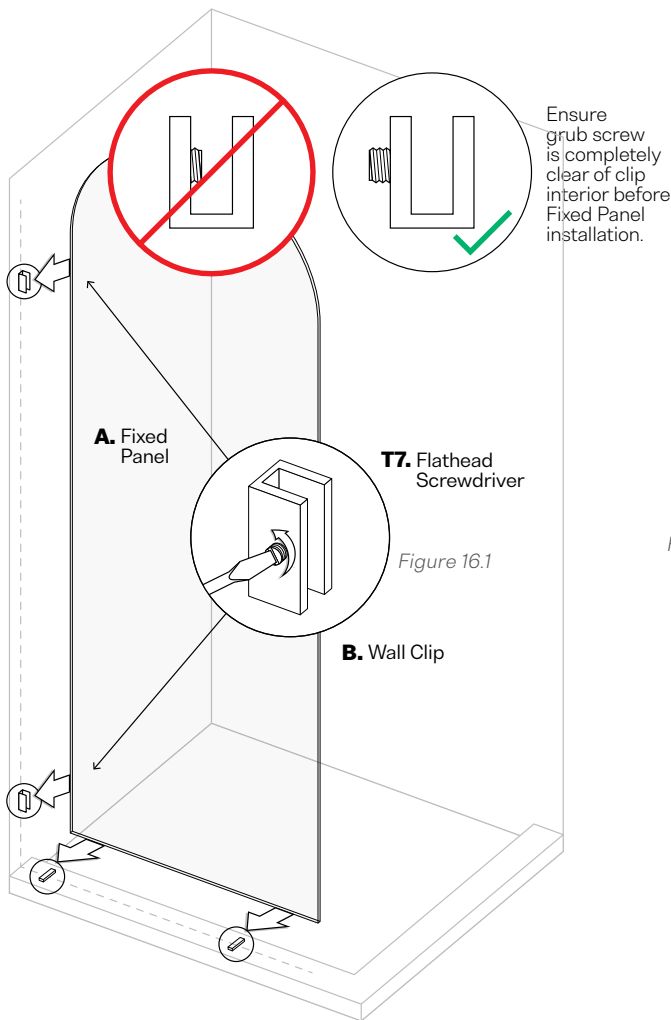

Figure 16.1
- Use a Flat Head Screwdriver (T7.) to loosen the grub screws in Wall Clips (B.) (Fig. 16.1) so they will not interfere with placing the Fixed Panel (A.).